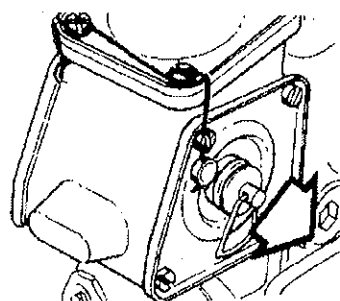

Fig. 40. Cold start device, MD70, TMD70, TAMD70
For the other engines the cold start device is located in the smoke limiter at the front of the injection pump. It is engaged by **pulling a ring at the end of a shaft** on the side of the smoke limiter (fig. 40), after the speed control lever has been set to the max. position.
2. **MD70C, TDM70C:** Engage the cold start device before starting a cold engine. See figs. 40.